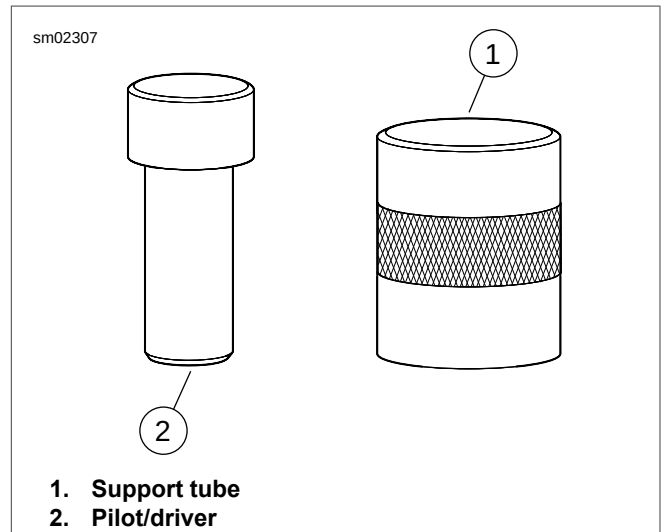

Figure 3-136. Left Main Bearing Remover and Installer Tools
See Figure 3-136. If the ram of the press is wider than the head of pilot/driver (2), a suitable press plug will be needed in order to remove the main bearing.
1. See Figure 3-136. Obtain CRANKCASE BEARING REMOVER/INSTALLER (Part No. B-45655) and CRANKCASE BEARING REMOVER/INSTALLER BASE (Part No. HD-42720-5).